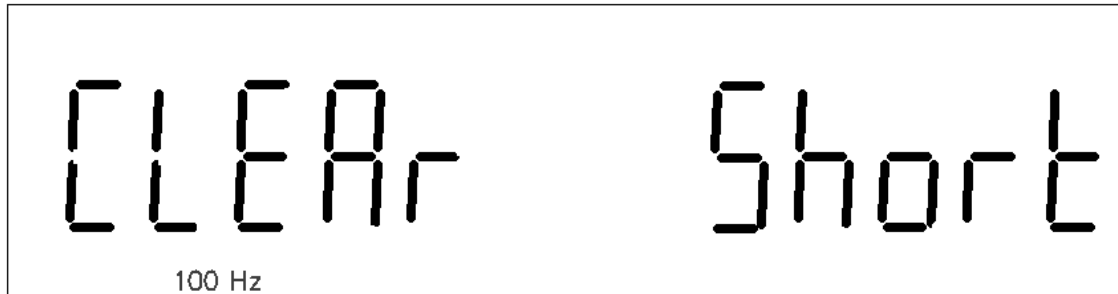

Figure 3-3 Short Correction
2. The information shown in Figure 3-3 will be displayed. "**SHORT**" flashes.